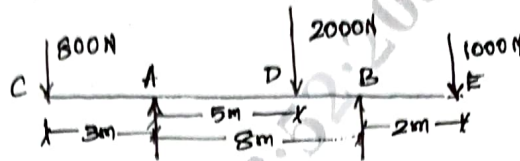

Fig.Q4
- 4 Draw bending moment diagram and shear force diagram for given beam in Fig.Q4. (20 Marks)